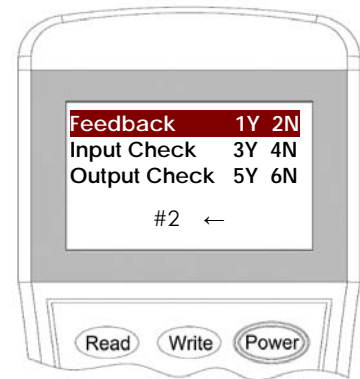

Figure 12: Page 2 for Second address
5. For the 2nd address, press **"0/Page"** to go to page 2 (Figure 12). Then complete with similar procedures above.